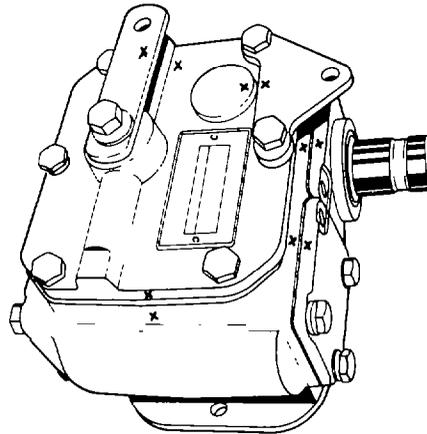

Fig. 399 — Match Marking Housing and Covers
- d. Match mark or number the bearing cover plates, the selector lever, the selector cover and the cable bracket to the housing for correct positioning at reassembly (see fig. 399).